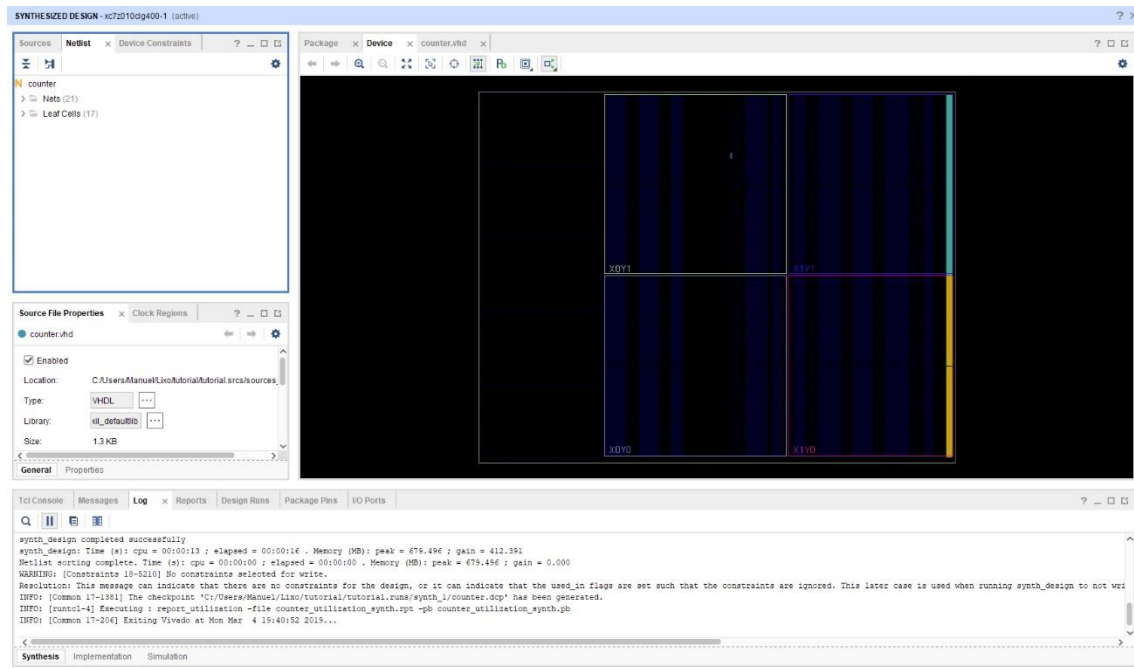

Figure 19
7. A **Device** window opens in the new **Synthesized Design** window, showing the FPGA resources distribution (Figure 19)(if the **Device** window is not visible, check for the **Device** tab in the new **Synthesized Design** window). However, no resources are yet occupied by our design. This happens only after the **Implementation** step